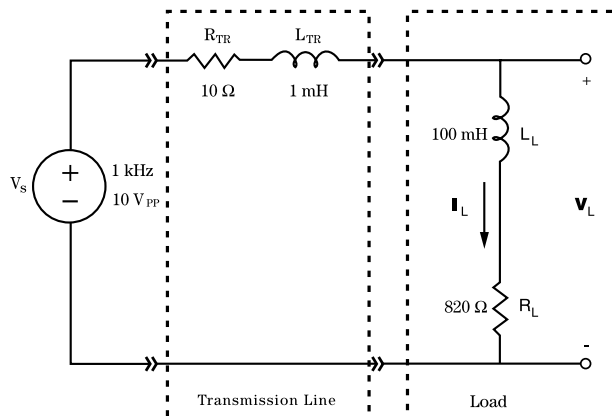

Figure 1
Review Sect. 14-1 through 14-5 in the text*. The circuit of Fig. 1 represents a model of a power system. Use phasor analysis methods to find V_L and I_L . Find the total complex power S_{tot} provided by the source V_s and the complex power absorbed by the “transmission lines” S_{TR} and the “load” S_L . Remember to use rms values for these calculations. All phase angles should be referenced to V_s .
- a. Measure and record the actual values of the inductors with an RCL meter and the resistors with the DMM. In your journal draw a schematic like that of Fig. 1, labeling each element with its measured value. Recalculate the complex powers and V_L using the actual element values. Construct the circuit of Fig. 1 on a protoboard.
- b. Connect the required amount of capacitance to the circuit of Fig. 1. Determine the new V_L by measuring the voltage across the load, and the phase angle referenced to V_s .